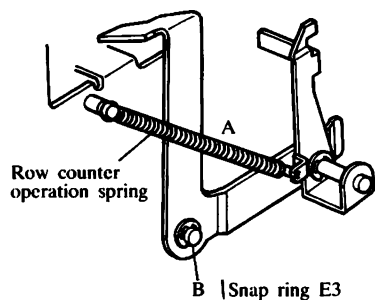

Fig. 32
- (1) Remove the Row counter operating spring. (Refer to A in Fig. 32)
- (2) Remove the Snap ring E3 for the Tripper then pull the Row counter tripper. (Refer to B in Fig. 32)